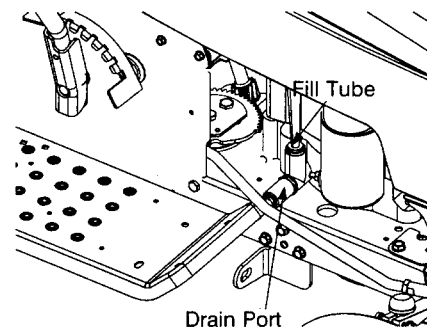

FIGURE 16
- Unscrew the oil fill cap and remove the dipstick from the oil fill tube. See Figure 16.
- Pop open the protective cap on the end of the oil drain valve to expose the drain port. See Figure 16.